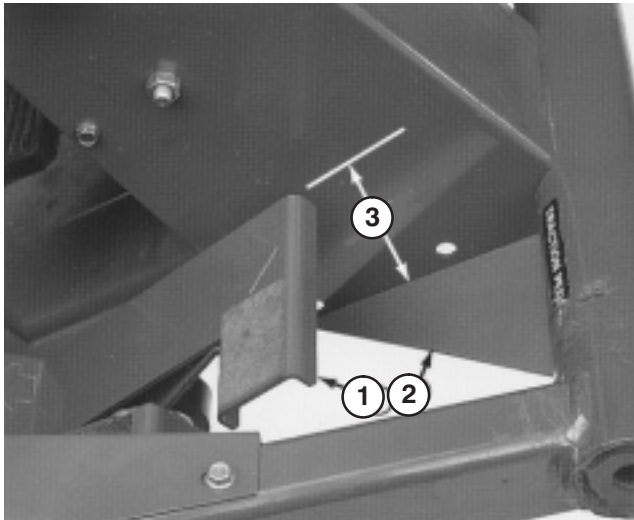
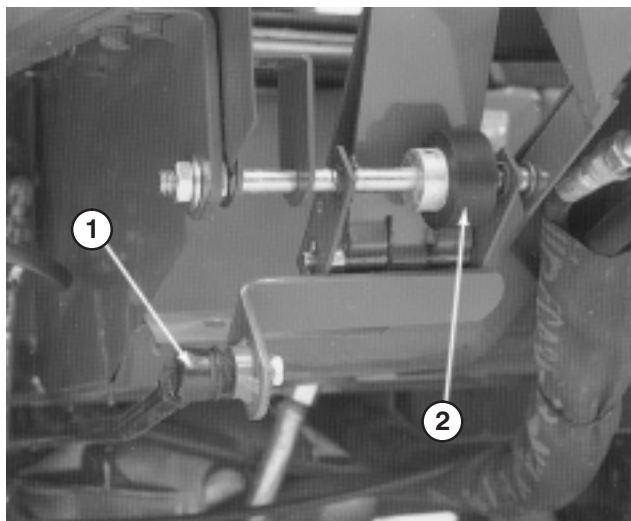

Figure 38
Figure 39
2. Press down on front of traction pedal and check travel. There should be approximately 3.50" clearance between end of pedal and floor plate when pedal is fully depressed (Fig. 38). Adjust pump control rod (Fig. 39) to attain dimension.
1. Loosen two nuts securing traction pedal shaft on right side of pedal (Fig. 39).